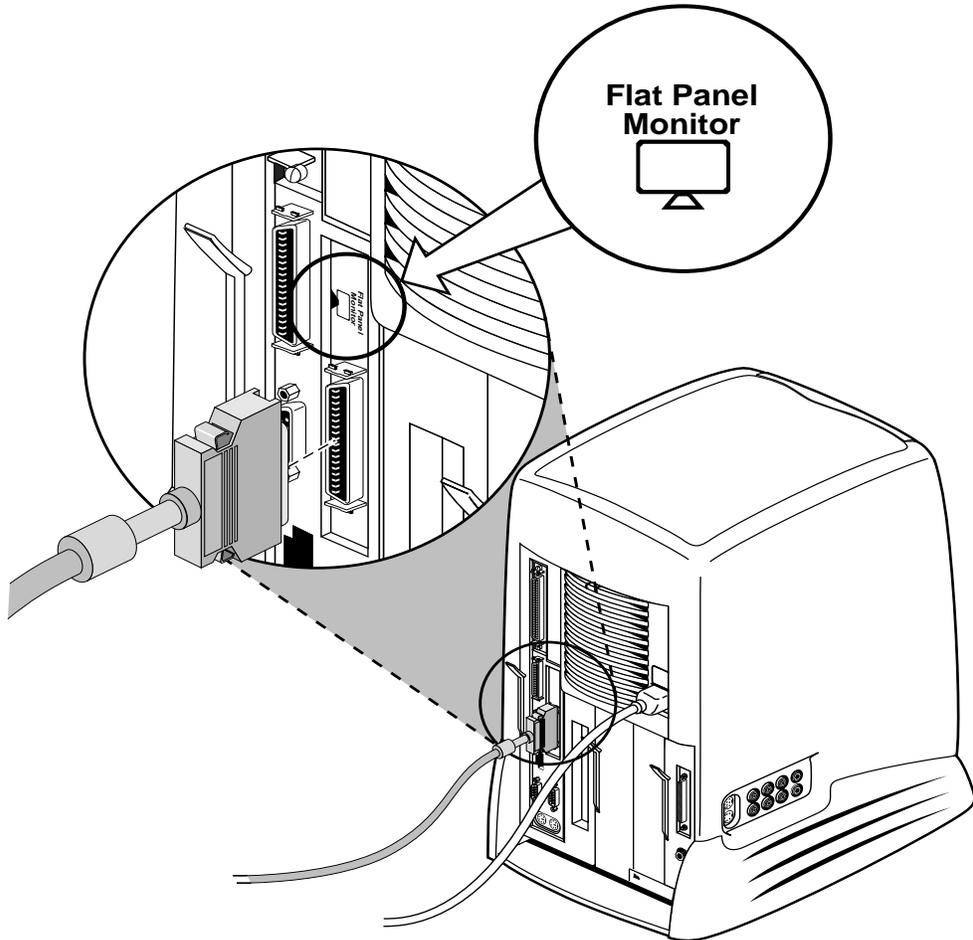

Figure 1-27 Attaching the Interface Cable to the Adapter Board
4. Locate the interface cable and attach it to the flat panel board's connector, as shown in Figure 1-27.